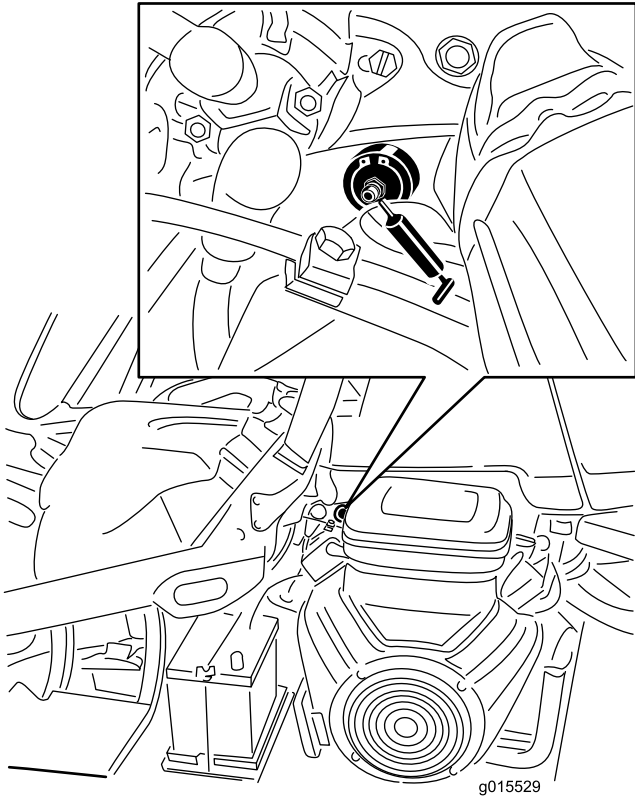

Figure 41
1. Wipe the grease fitting clean so foreign matter cannot be forced into the bearing or bushing (Figure 41).